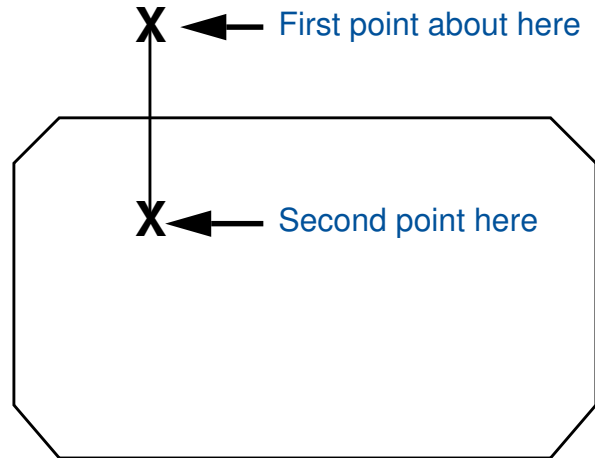

Figure 2-31. The Second Point of the Slot
3. Move the cursor down (you see a *rubberband* line showing the distance between the center-points of the two arcs of the slot) so that the slot extends down into the rectangle about 0.5 inch from the top of the rectangle to the center-point of the lower arc of the slot. Click the Select mouse button. When the slot is drawn, Cancel the prompt bar. Refer to Figures 2-31 and 2-32.